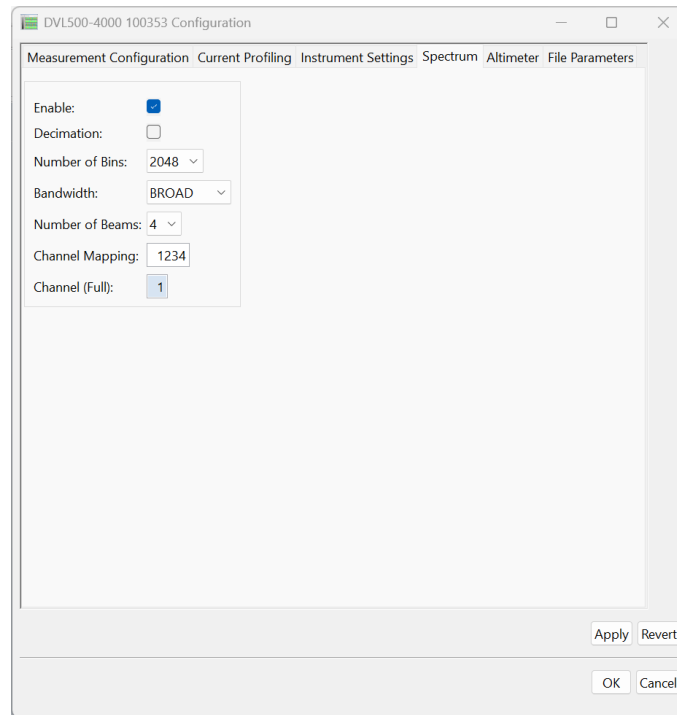

Figure 13: Midas Spectrum Tab
3. Open the configuration menu and set Measurement Configuration' tab with values shown in Figure 13.
5. Configure the spectrum analyzer and apply settings shown in Figure 13.